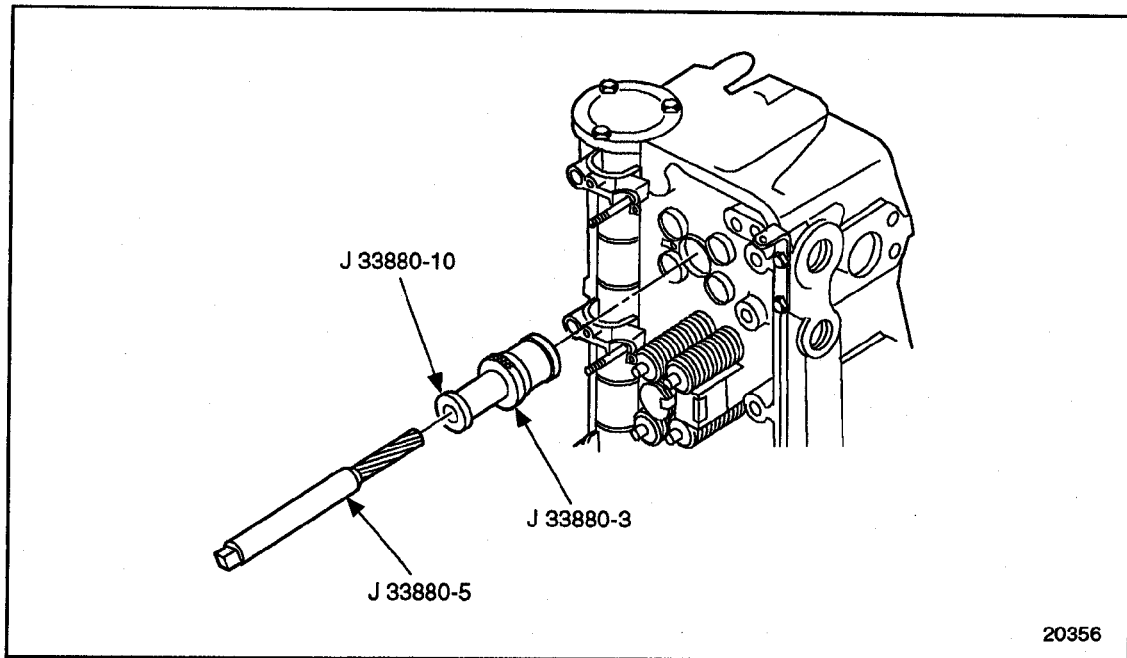

Figure 2-20 Reaming Injector Tube
10. Install J 33880-3, into the injector bore until it contacts the cylinder head. See Figure 2-20.
11. Install J 33880-10, into the seat reamer pilot until it bottoms. See Figure 2-20.
- Place a few drops of cutting oil on the cutting edges of J 33880-5, and install it in J 33880-10. See Figure 2-20.
1. Insert J 33880-3 part of J 33880, into injector tube bore of cylinder head. See Figure 2-20.